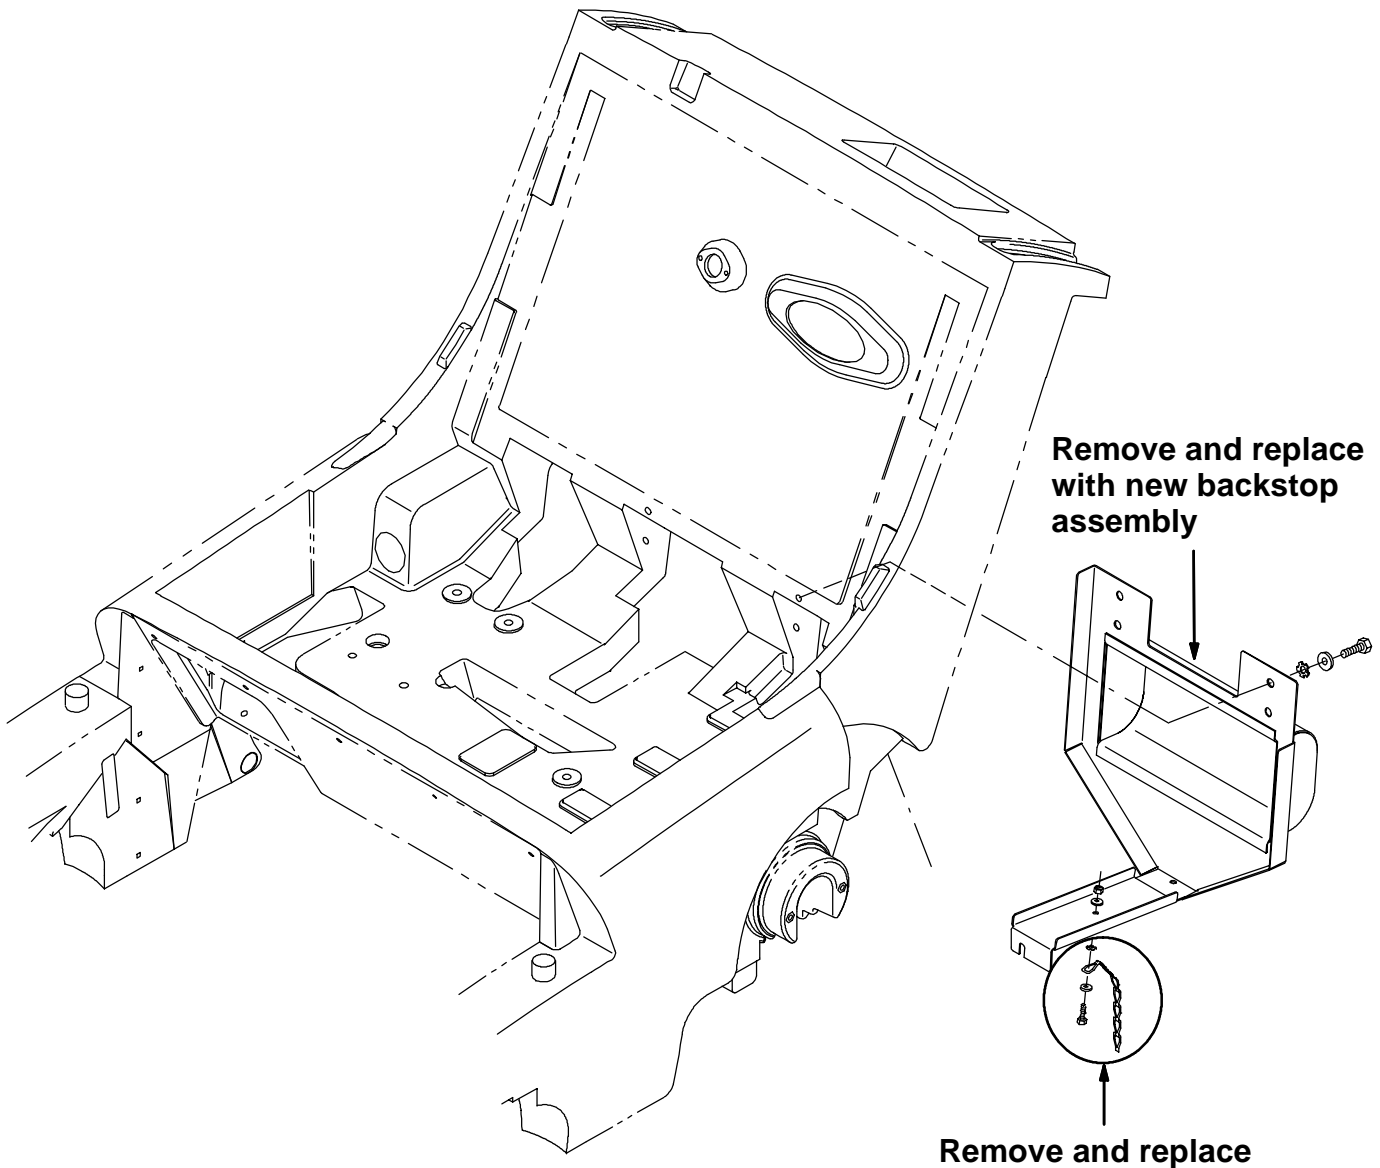

FIG. 3 - BACK STOP ASSEMBLY
20. Remove existing back stop bracket with the four M8 upper bolts and one M6 lower lock nut and flat washer. Retain hardware to install the new back stop bracket. (Refer to FIG. 3)
21. Remove the static chain from the old back stop bracket and install on the new back stop. (Refer to FIG. 3)
22. Install the new back stop bracket and static chain assembly on the machine using the existing hardware. (Refer to FIG. 3)